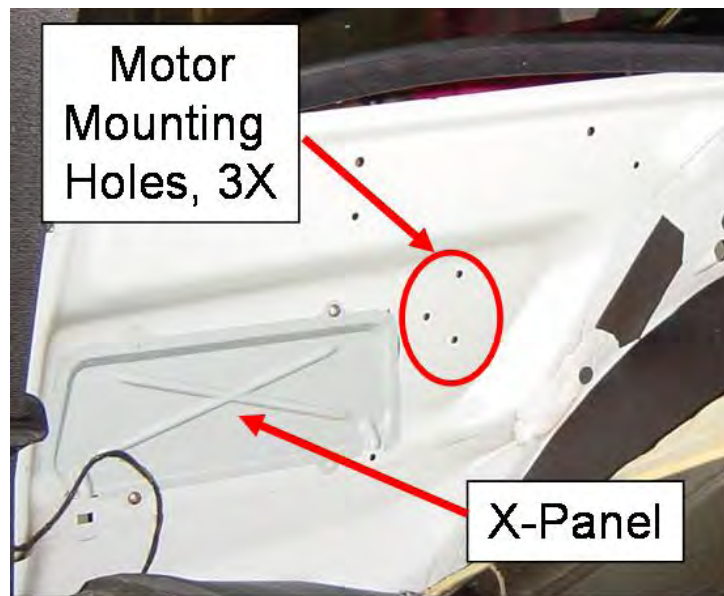

Figure 34 – X-Panel Behind Rear Side Panels
- 8.2.1 The window motors are mounted by three screws below the rear vent windows, inside the rear walls. Begin by removing the panel with a raised "X" (X-Panel) shown in Figure 34 to gain access. Only two screws hold the X-Panel in place. BE CAREFUL because the sheet-metal in this area is thin and sharp which could result in an injury.
- 8.2.3 Locate the three existing holes in the sheet-metal (Figure 34) and mount the motor using the supplied hardware (3 screws and 3 nuts per motor). The motor gets mounted on the opposite side of the wall shown (inside of wall).